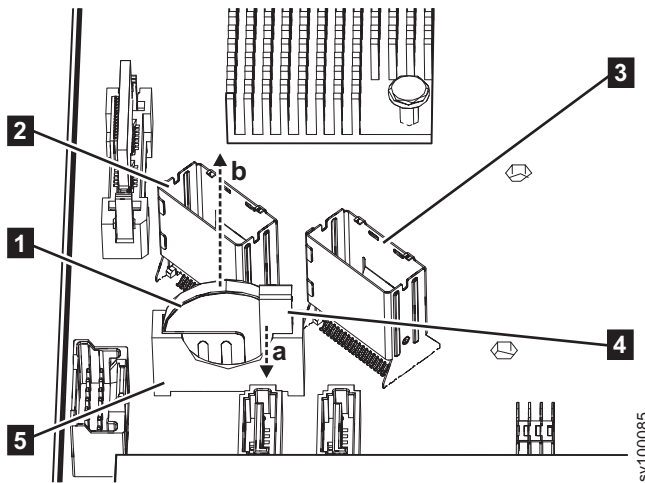

Figure 183. Removing the 2145-SV1 CMOS battery
- a. Pull the battery holder catch **4** away from the battery in the direction (a) shown in Figure 183.
- b. Use your thumb and index finger to lift the battery from the holder **5** in the direction (b) shown in Figure 183.